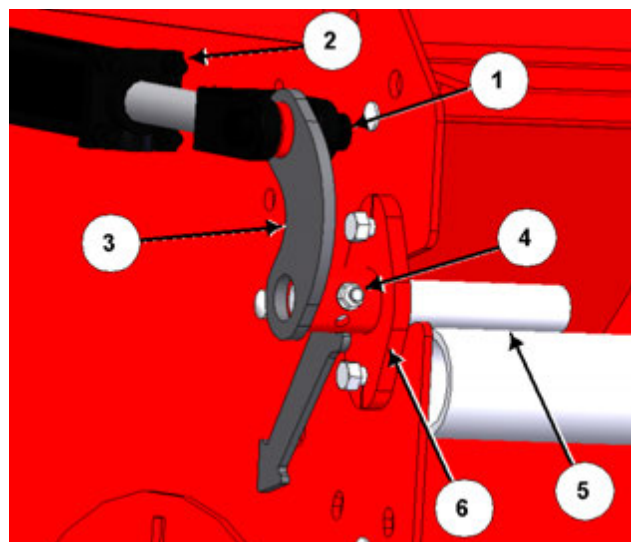

Figure 4: Remove pin and hydraulic adjustment arrow
- b. If the optional hydraulic aggression control is installed, follow the below steps and refer to *Figure 4*:
- Remove the pin (1) that fastens the hydraulic cylinder (2) to the hydraulic adjustment arrow (3). Set the pin aside for re-use.
- Remove the cross bolt (4) that is through the guard rod adjustment bar (5) and hydraulic adjustment arrow (3), and remove the arrow. Set the arrow aside for re-use.
- Remove the bolts fastening the guard rod adjustment tube (6) to the tub wall, and remove. Set the adjustment tube aside for re-use.